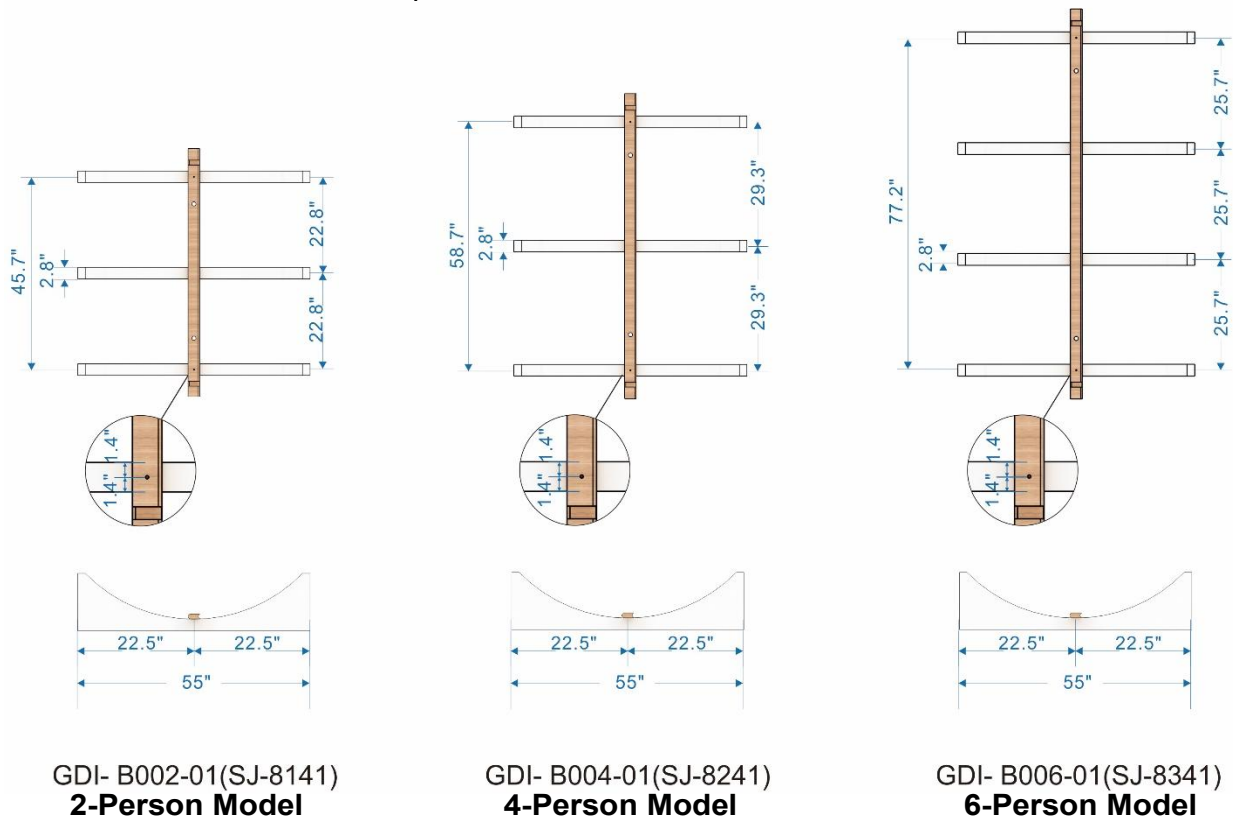

figure 1
Place the bottom support cradles at their desired locations. See figure 1. Determine the front and rear positions of the support cradle according to the marks on the floor. The 2-person model will have (3) support cradles. The 4-person model will have (3) support cradles. The 6-person model will have (4) support cradles. See figure 1a. To avoid damaging your floor, it is not recommended to move the sauna once it is assembled. If the unit is moved, please do so carefully and cautiously.